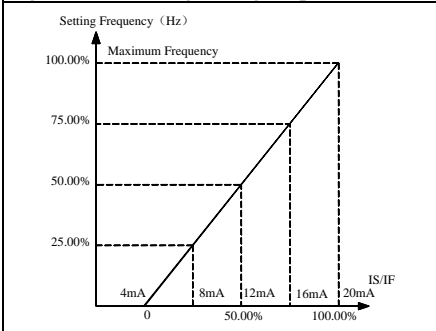

Figure 7-27 Analog Current Input 4~20mA
**F8-00 hundreds place=0**, the linear range of terminal IS voltage input: 4~20mA=0~100%. See Figure 7-27.
**F8-00 thousands place=0**, the linear range of terminal IS voltage input: 4~20mA=0~100%. See Figure 7-27.